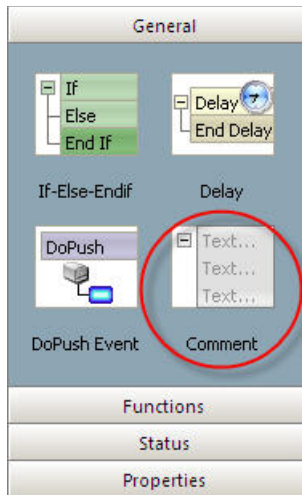

FIG. 238 CodeBuilder - Adding a Comment
1. Double-click or drag-and-drop the **Comment** option from the *General* tab into the Event Window (FIG. 238):